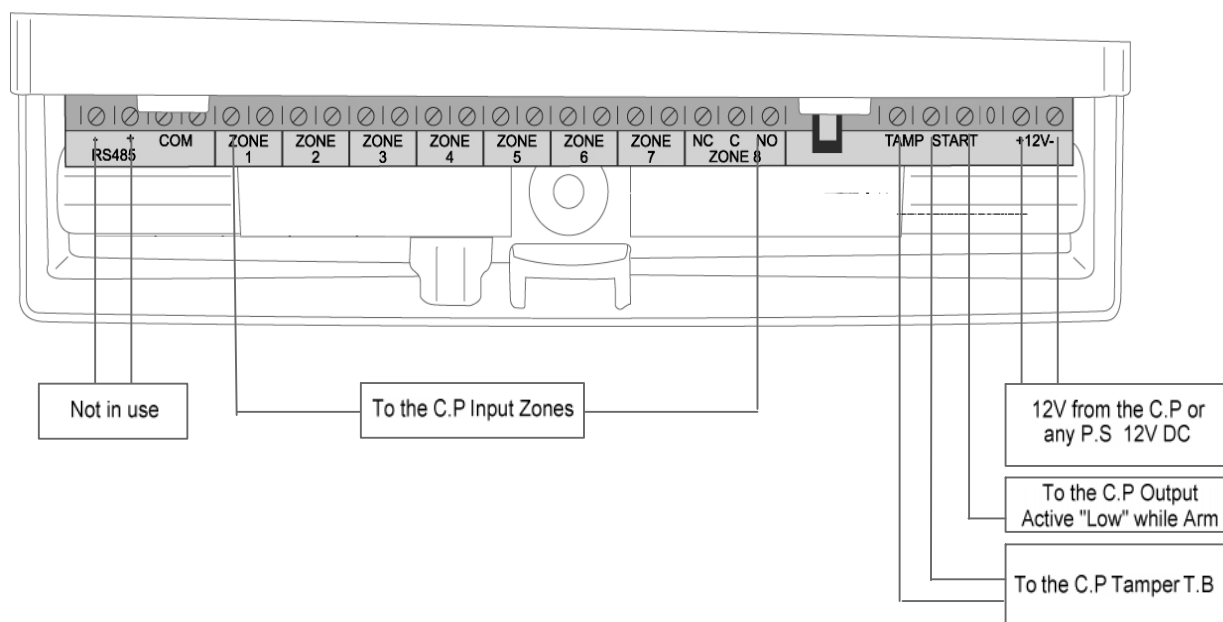

Figure 6: Freeko Receiver wire terminal
2. The Tamper zone at the Receiver is connected to zone 8 at the panel, or other zone. It's recommended to program this zone as 24H or Day zone. Freeko II receiver as alarm panel has common -V (negative) for zones & tamper output, refer to figure 6.